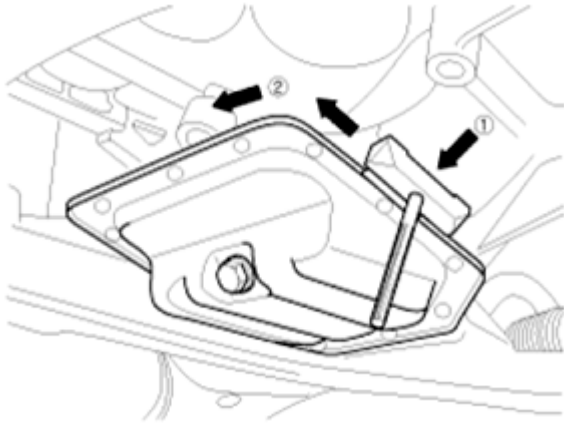

Fig. 5: Removing Oil Pan Using SST
- Insert the SST between the oil pan and the ladder frame by tapping it with a plastic hammer in the direction of arrow as shown in Fig. 5.
10. Remove the oil screen (A).